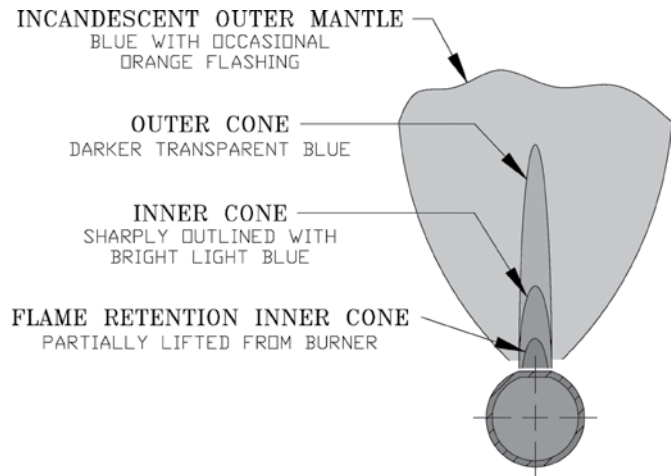

Figure 15: Main Burner Flame
- D. **Check Main Burner Flame.** See Figure 15. Flame should have a clearly defined inner cone with no yellow tipping. Orange-yellow streaks caused by dust should not be confused with true yellow tipping.